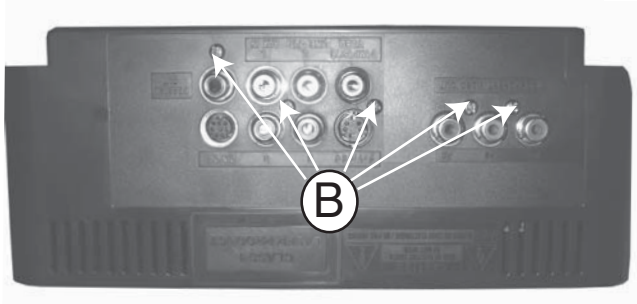

Figure 2
- 2) Loosen 5 screws "B" on the rear plate as shown in figure 2.